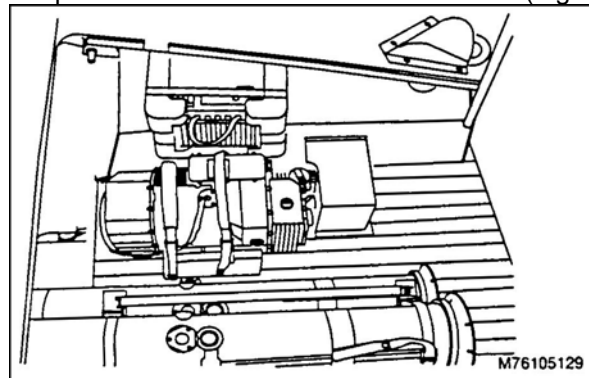

Figure 10. TAS stow position.
- c. Release the TAS straps and lift the TAS from the TAS cradle (Figure 10).